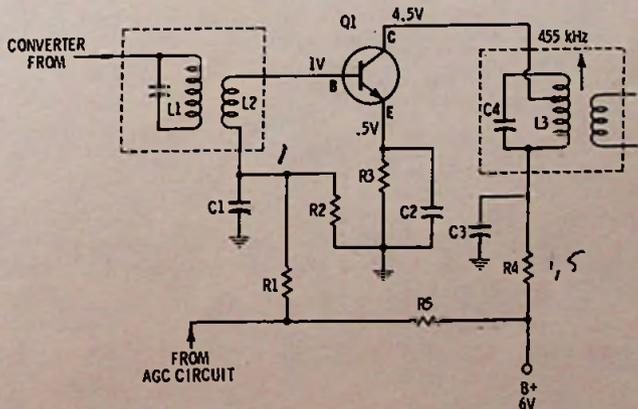

Fig. 11-9. I-f amplifier circuit for Questions 6 through 10.
Some other innovations are shown in Fig. 11-9. Note that the bypass capacitors in the input and output circuits return to the emitter, and, since this return is direct, there is no need for an emitter bypass capacitor. Because a silicon transistor is used, which is much less sensitive to leakage, there is not so much need for a voltage-divider circuit in the base circuit. In fact, it is often not used when silicon transistors are used. Just one resistor is used from the B+ line, and it is selected to provide the right amount of bias. Because the silicon does not have this tendency toward "thermal runaway,"* the emitter resistor may be omitted altogether in some circuits.
- In Fig. 11-9, assuming the transistor is drawing 1.5 mA of collector current, resistors R3 and R4 are respectively about
- The transistor in Fig. 11-9 is
9. If C4 opens, in Fig. 11-9, the symptom would be
10. If R1 opens, in Fig. 11-9, the voltage on the emitter of Q1